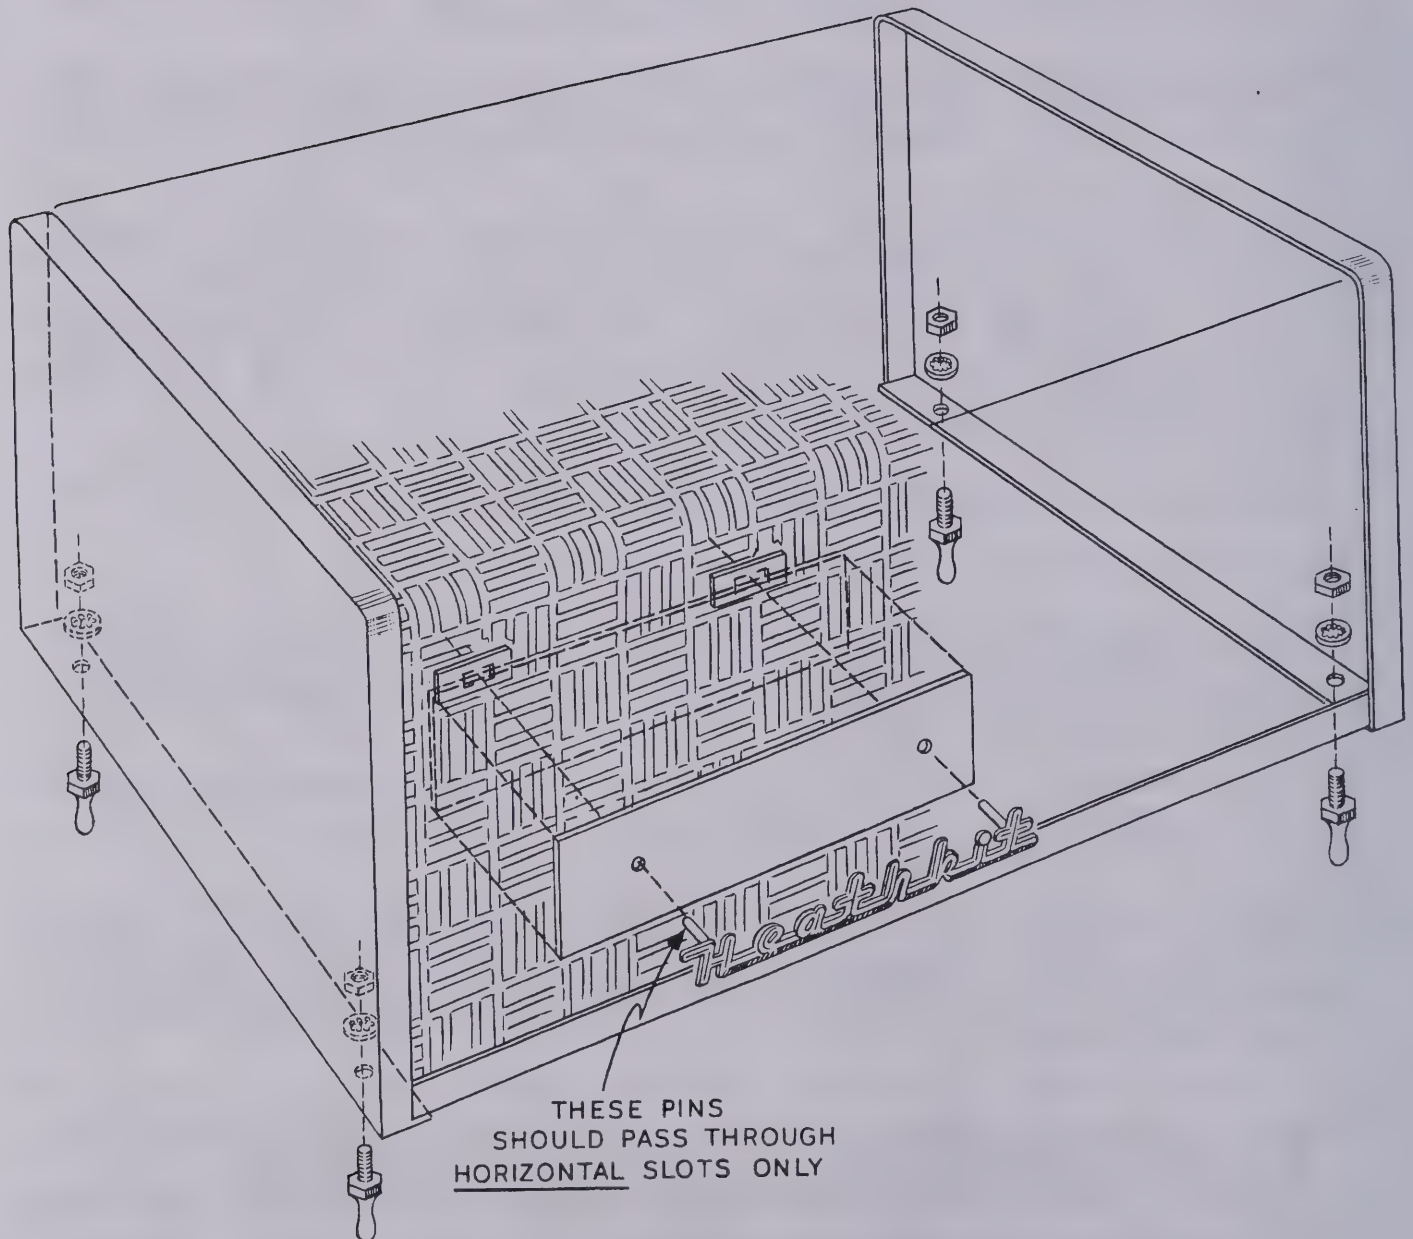

Figure 16
- () Slip a $1\text{ }5/8$ " length of sleeving over one end of the wire. Form a small hook at the end and insert the hooked end, with the sleeving in place, under the group of resistors between socket V5 and filter condenser G. Connect the hooked end to filter condenser H4 (S). Push the sleeving snugly against H4.
- () Connect one lead to CC1 (S).
- () Connect the adjacent end to CC2 (S).
- ✦) Identify the four spring-catch pins, referring to Figure 16. Mount pins at each of the four corners of the cover, using 6-32 lockwashers and nuts.
- ✦) Referring to Figure 16, attach the plastic name-plate and escutcheon to the cover screen using the speed nuts provided. A suggested location is given in Figure 16. Any of the horizontal slots in the cover will accept the name-plate pins if some other location is preferred.